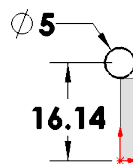

**Fig. 33**
Step 1. Click **Right Plane**  in the Feature Manager and click **Sketch**  on the context toolbar, **Fig. 33**.